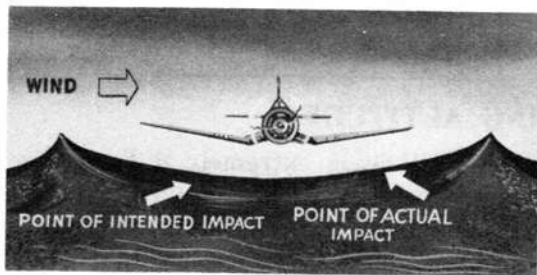

Figure 6-5-1. Ditching crosswind. Plane is on the downwind side of wave crest. Note computation necessary for drift.
(1) Obtain the lowest rate of descent and forward speed by use of flaps and power, if available. Use medium flaps on all airplanes excepting carrier-based fighters and the PB4Y.
(2) Maintain the most advantageous nose-up attitude possible.
(3) Compensate for drift by heading.
(4) Endeavor to land on the downwind side of the swell top or wave crest. (See fig 6-5-1.)
(5) In multiengine aircraft, that side of the aircraft which has maximum power available should be the upwind side if this does not involve a turn near the water.